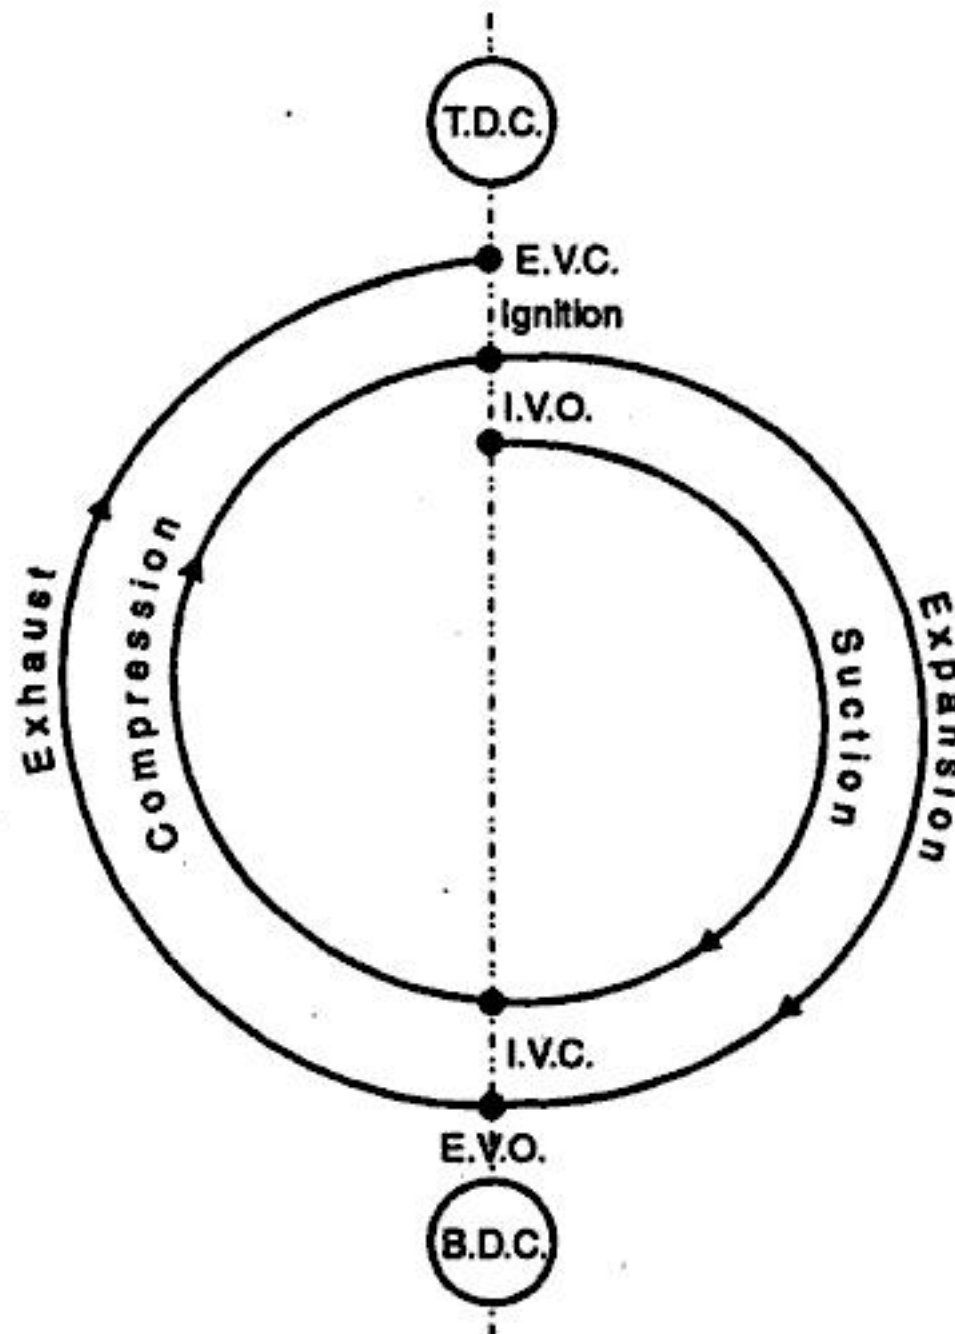
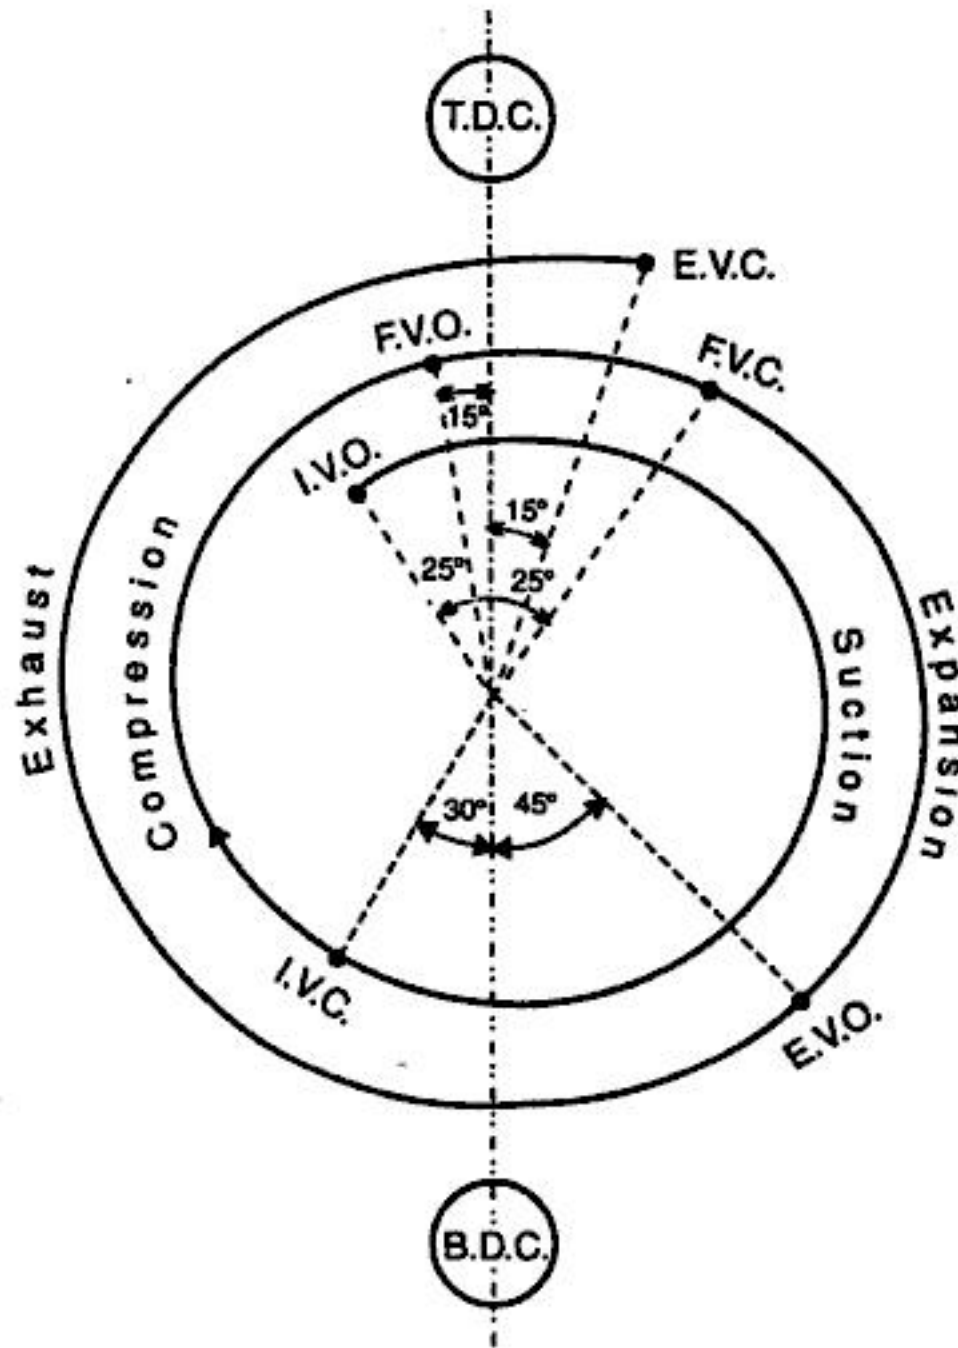

Fig. 2.40. Theoretical valve timing diagram (four stroke Otto cycle engine).
Fig. 2.42. Actual valve timing diagram (four stroke Diesel cycle engines).
1. **Otto engine.** Fig. 2.40 shows a theoretical valve timing diagram for *four stroke "Otto*
2. Diesel engines. Fig. 2.42 shows the valve timing diagram of a *four stroke "Diesel cycle" engine* (theoretical valve timing diagram, is however the same as Fig. 2.40). Inlet valve opens  $10^\circ$  to  $25^\circ$  in advance of T.D.C. position and closes  $25^\circ$  to  $50^\circ$  after the B.D.C. position. Exhaust valve opens  $30^\circ$  to  $50^\circ$  in advance of B.D.C. position and closes  $10^\circ$  to  $15^\circ$  after the T.D.C. position. The fuel injection takes place  $5^\circ$  to  $10^\circ$  before T.D.C. position and continues up to  $15^\circ$  to  $25^\circ$  near T.D.C. position.